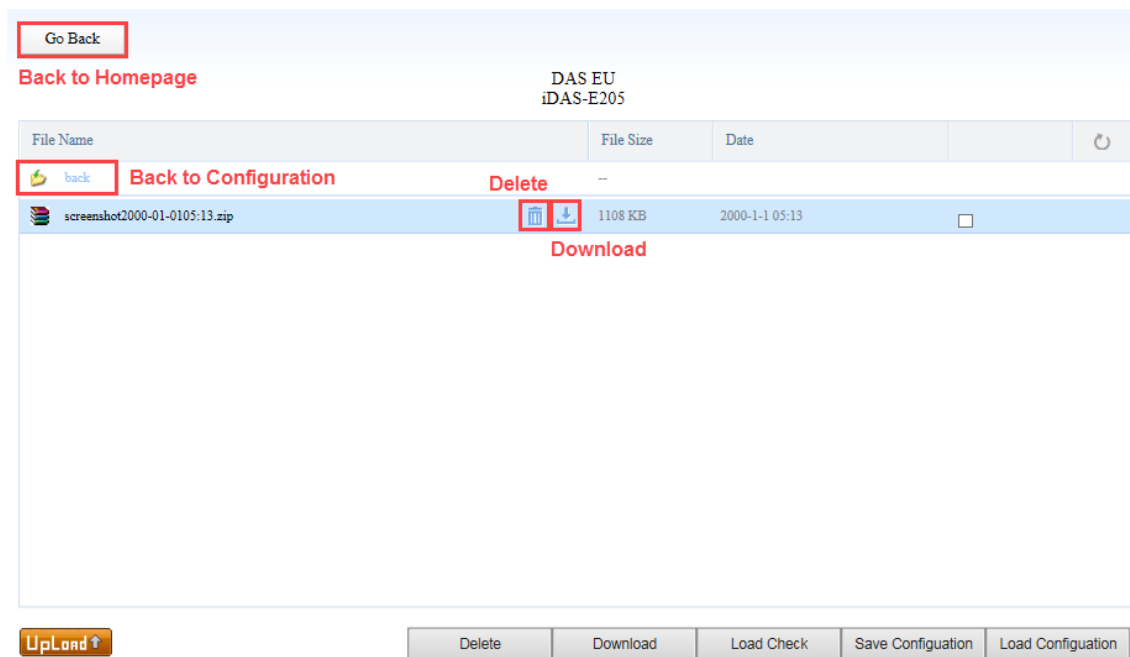

Figure 3-14 Screen Shot Download File
- g) Click **Download** shortcut icon to download the screen shot file. Check the filename and date to ensure that the correct file has been selected. See Figure 3-14 for details.